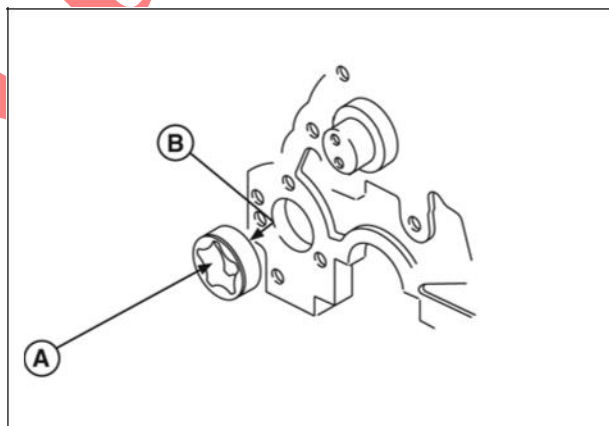

Figure 13
1. Clean and lubricate oil pump rotor (A, Figure 13) with engine oil and install in cylinder block.